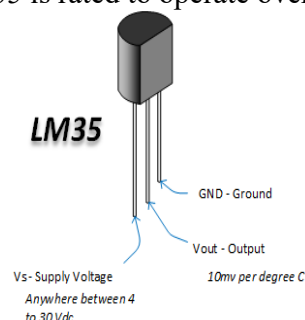
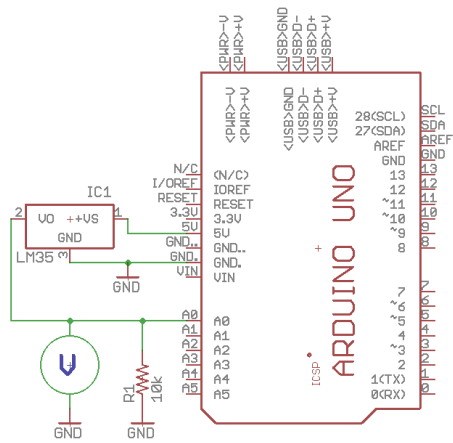

Figure 2.3. LM 35 package
Figure 2.6. Temperature Sensor Circuit
The temperature sensor LM35 in Figure 2.3 provides output voltage of 10 mV/degree Celsius and has highly linear output characteristics. The LM35 series are precision integrated-circuit temperature sensors, whose output voltage is linearly proportional to the Celsius (Centigrade) temperature.
- 1.1. Use a 10 k Ω potentiometer built in a Proto-Board, connect it to Arduino and construct the circuit shown in Figure 2.4. The Potentiometer and its diagram are shown in Figure 2.6.
- 2.1. Connect LM 35 Temperature sensor to the Arduino board and construct the circuit shown in Figure 2.6. The LM 35 pin layout is shown in Figure 2.3.